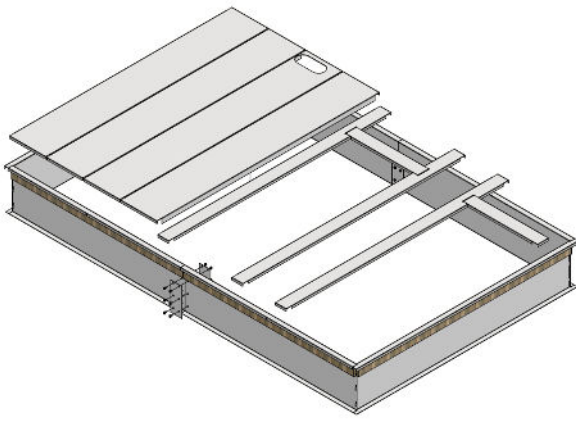
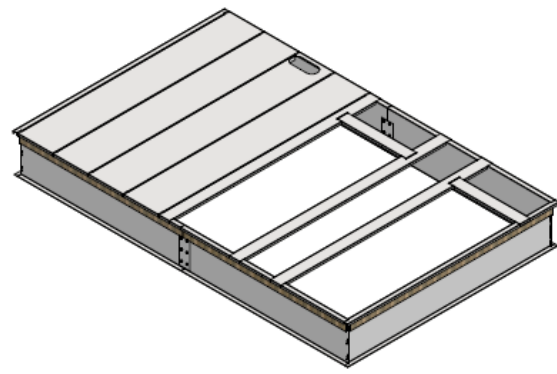

Figure 1
Figure 2
- Position perimeter pieces as depicted in Figure 1 and Figure 2 with wood to the outside, keeping the raw ends with the brackets holes facing one another.
- Install duct support pieces per Figure 1 and Figure 2.